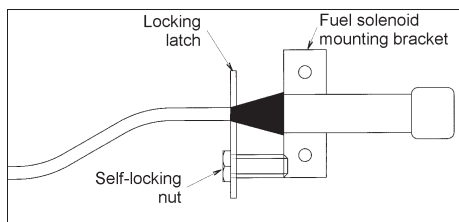

Figure 4.2 Fuel Control Solenoid Latch Lock
3. Operate the fuel solenoid linkage by hand and fix this in position with the locking latch; (see 'Figure 4.2').